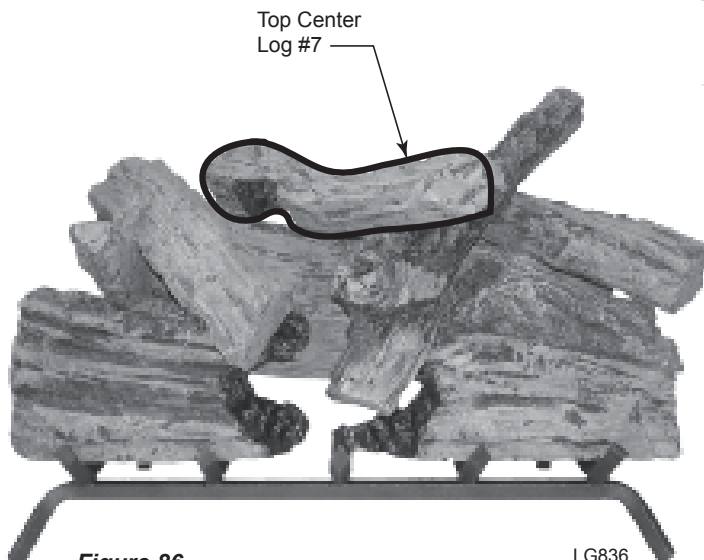

**Figure 86 -
8. Rest front end of left log #6 on log #1a and back end of log #6 just left of middle log #1. *Figure 86*